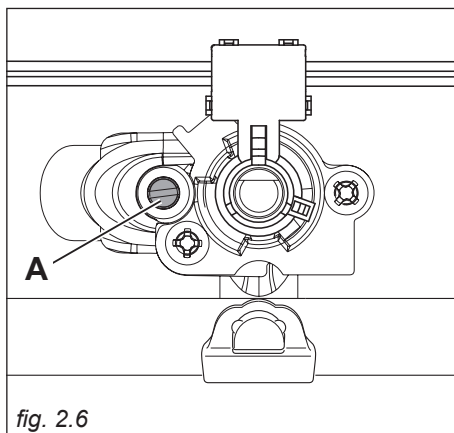

fig. 2.6
- With a thin screwdriver turn the screw “A” until adjustment is correct (fig. 2.6).